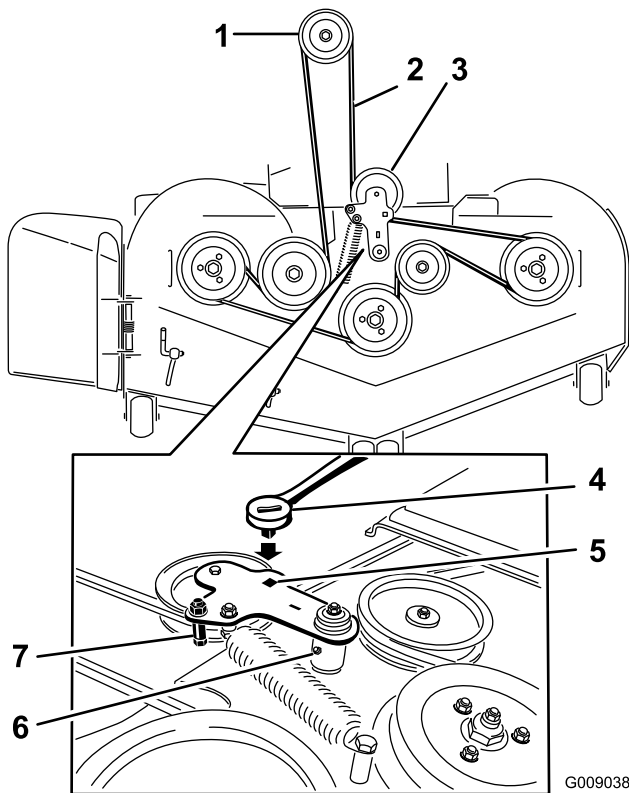

Figure 81
5. Use a ratchet in the square hole in the idler arm to remove tension on the idler spring (Figure 81).
7. Remove the belt guide on the spring-loaded idler arm (Figure 81).
9. Install the new belt around the mower pulleys and the clutch pulley under the engine (Figure 81).
10. Install the belt guide on the idler arm (Figure 81).
11. Using the ratchet in the square hole, install the idler spring (Figure 81).